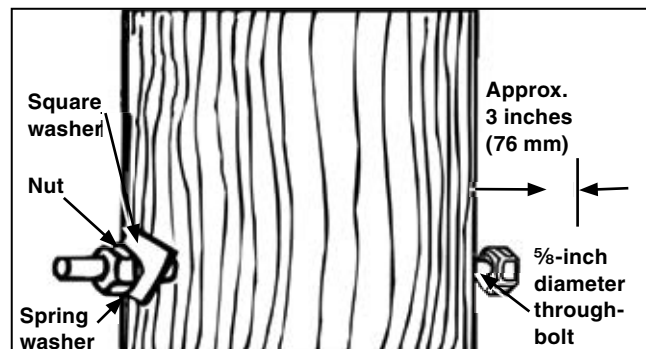

Figure 4. Installing through-bolts.
- STEP 2.** Insert a $\frac{5}{8}$ -inch diameter through-bolt (not furnished) into each hole as shown in Figure 4. *Loosely* attach a square washer, spring washer (when mounting to a wood utility pole), and nut on each bolt.